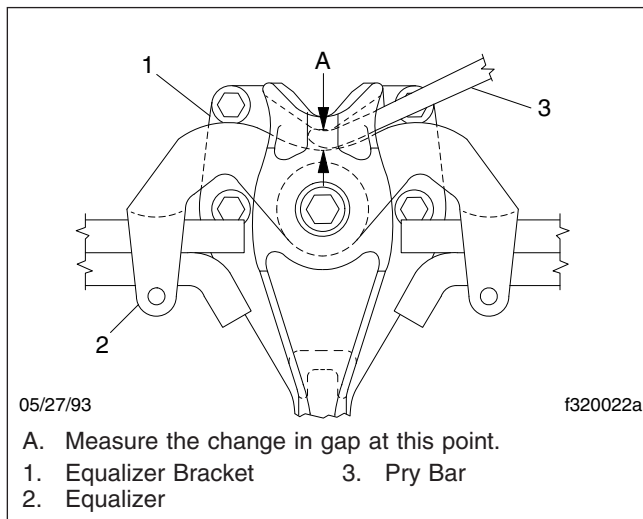

Fig. 4, Side View of the Equalizer
6. Block up the frame enough to take chassis weight off the springs. Attempt to move the equalizer up and down, using a pry bar between the top of the equalizer and top of the equalizer bracket; apply hand pressure only. See Fig. 4. If movement at the center of the equalizer exceeds 1/8 inch (3 mm), replace the equalizer bushings. See **Group 32** of the *122SD and Coronado Workshop Manual* for instructions.